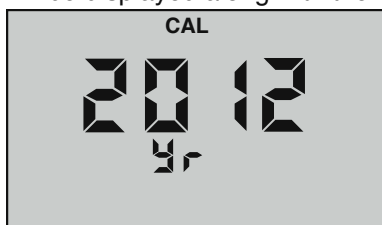

Figure 13
3. Press  to initiate. "CAL" will be displayed along with the YEAR (see Figure 13).